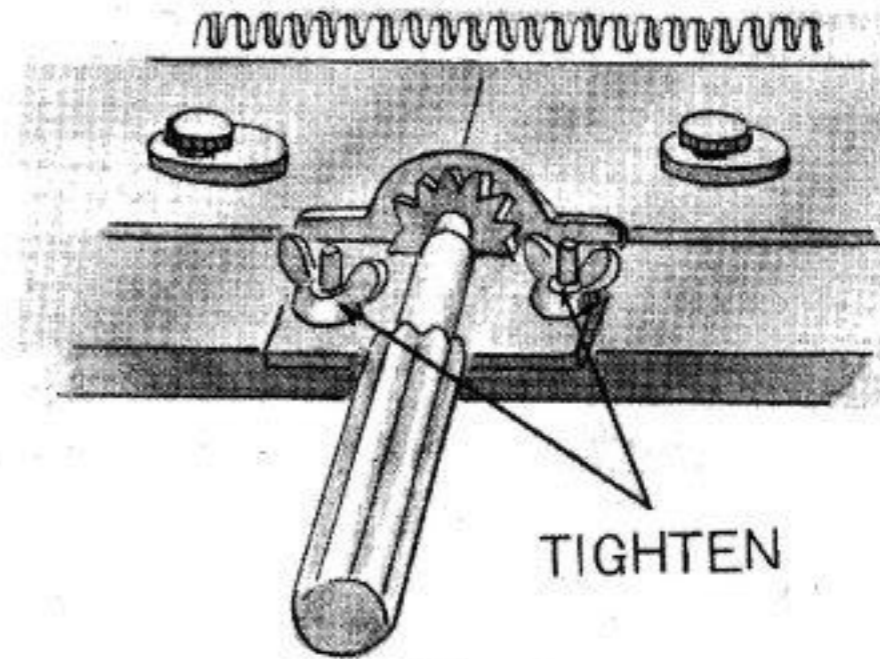

Fig. 2
- (1) Place the Pitch Handle in position, ensure that the teeth engage in the rack and securely tighten the wing nuts. (See Fig. 2)